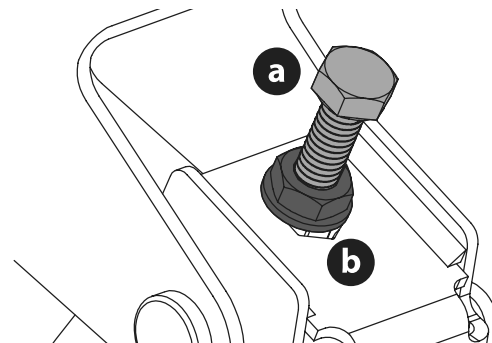

Figure 38
3. Locate the adjustment bolts (a) on the left and right side of the deck (Figure 38).
4. Loosen, but do not remove, the jam nuts (b) on the adjustment bolt. Adjust either the right or left adjustment bolt up or down as necessary until the side-to-side heights are equal (Figure 38).
- When proper adjustment is achieved, re-tighten the jam nuts (b). Tighten to 200 in-lbs (23 N-m) (Figure 38 on page 28).